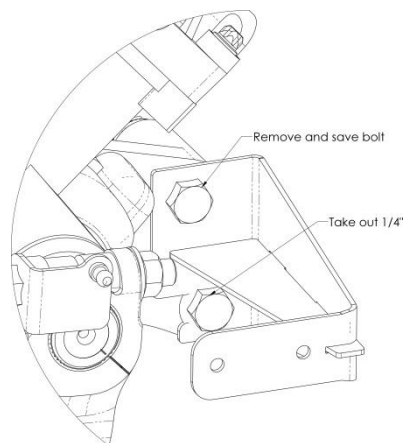

Figure 26. Steering Mount installation.
6. Install the Steering Sensor as shown in Figure 26. Using the 5/16"-18 fasteners.